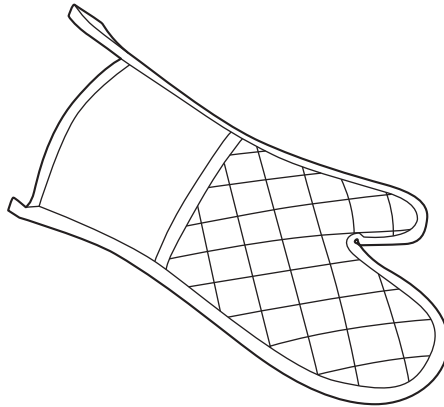

Fig. 10
Fig. 10 shows a quilted oven mitt.
(a) Give **four** justified design requirements for the oven mitt shown in Fig. 10.
- (e) (i) State a **suitable specific fabric** for making the oven mitt shown in Fig. 10 and give **two** performance characteristics of the fabric that make it suitable for this use.
- (ii) Describe, in detail, how the oven mitt shown in Fig. 10 would be manufactured in a batch of 10,000.